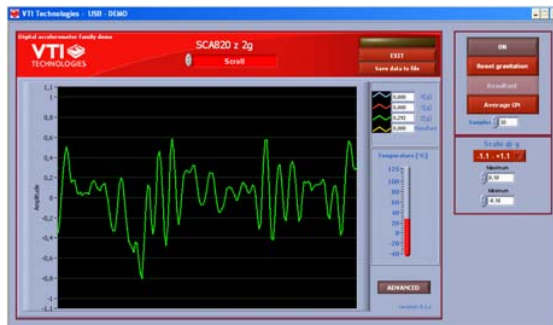

Figure 5. Scroll display.
**SCROLL**, continuously scrolling X / Y / Z / resultant accelerations (product dependent), see Figure 5. Acceleration is presented in [g]. User can: